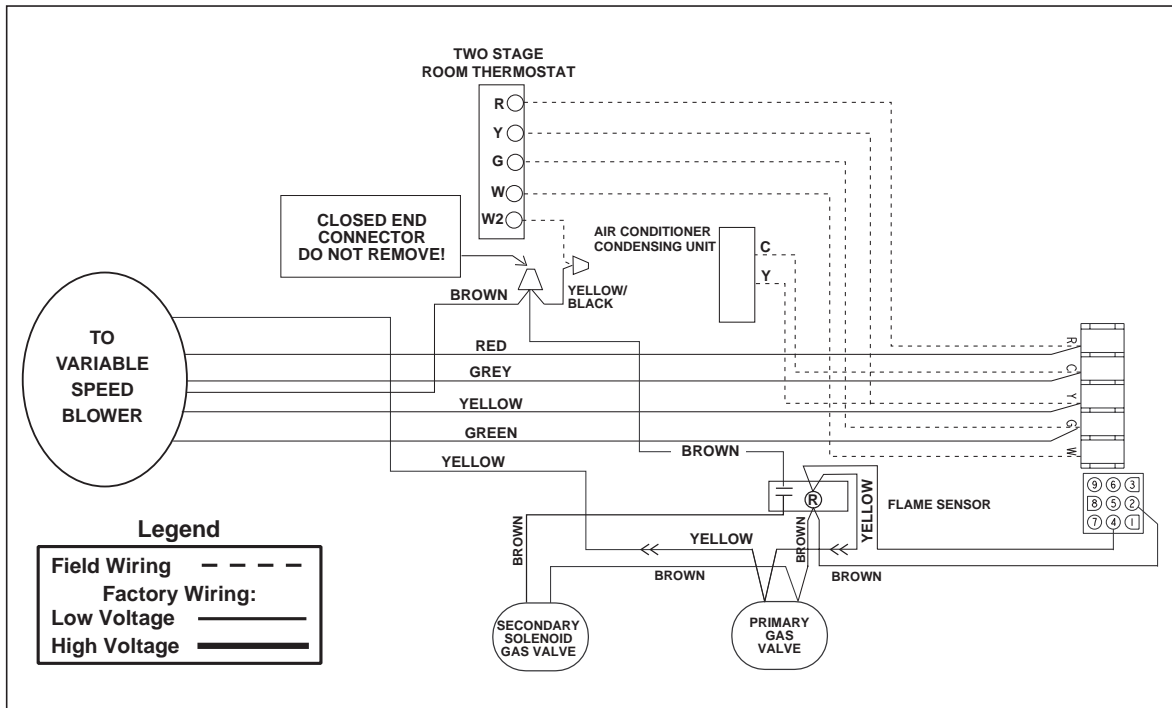

Figure 16a. Two Stage Configuration
1. *Two stage thermostat configuration* – For this installation a two stage heating thermostat is used. **CAUTION:** Disconnect yellow wire with black stripe from primary gas valve. Remove female connector from yellow/black wire and strip insulation from end. Connect stripped yellow wire with black stripe to (W2) from the thermostat. (See Figure 16a). The first stage bulb (W1) is connected to W on the furnace control board. On a call for first stage heat, the furnace will operate at low fire and the blower will run at a lower speed. On a call for second stage heat, the furnace will operate at high fire and the blower will run at a higher speed. The furnace will stage between low fire, high fire, and off depending on the thermostat signal.
Install the thermostat per the manufacturer's instructions. The low voltage (24 volt) connections from the thermostat are made at the terminal strip on the control board in the furnace. See Figures 16a-16e for the proper